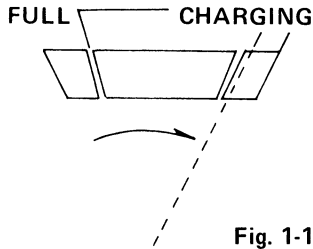

Fig. 1-10
- a. If the pointer is at the right end of the scale as in Fig. 1-10, the battery is fully discharged and will need 8 to 10 hours to charge.